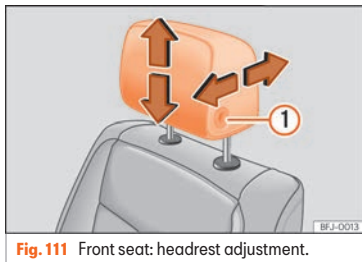
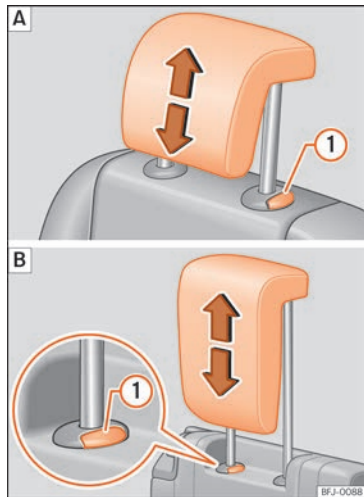

Fig. 111 Front seat: headrest adjustment.
Fig. 112 Adjusting the rear headrests: **A**) Second row of seats, **B**) third row of seats.
- Move the headrest up or down in the direction of the corresponding arrow. Regarding the rear headrest, to both raise and lower, press the button »» **Fig. 111** **1**; for the rear headrests it is only necessary to press the button »» **Fig. 112** **1** to lower them »» **Δ** in Introduction on page 126.
- Move the headrest forward or back in the direction of the corresponding arrow while pressing the button »» Fig. 111 ①.